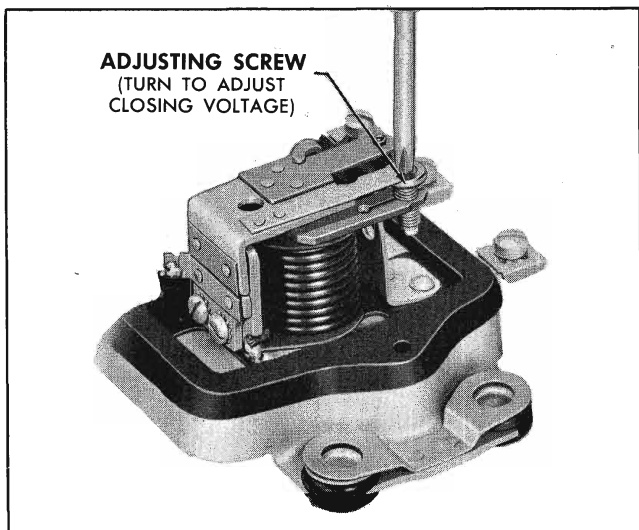

Fig. 11-28 Adjusting Closing Voltage
3. Adjust the closing voltage by turning the adjusting screw (Fig. 11-28). Turn the screw clockwise to increase the setting and counterclockwise to decrease the setting.